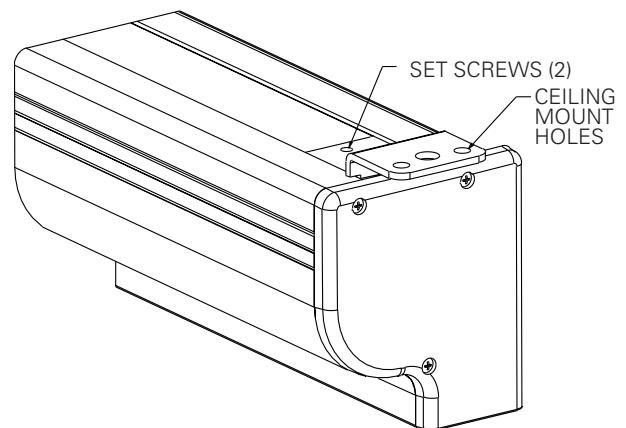

FIGURE 2
3. The top of the screen case has a channel that the ceiling mount brackets slide into. Loosen the two set screws on the brackets and slide bracket so it extends over the end of the case. Lock the brackets in place by tightening two set screws. Refer to figure 2. Mount cannot be more than 12" from end of case.